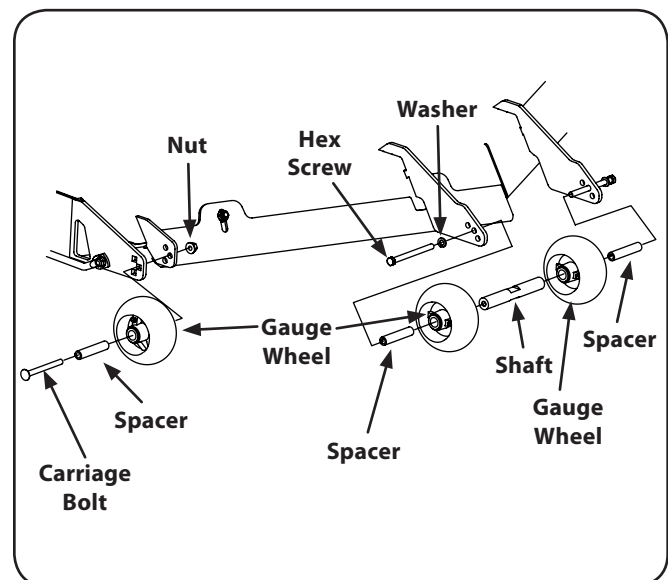

Figure 6-7
2. Remove the lock nut securing one of the front gauge wheel shoulder screws to the deck. Remove the gauge wheel and shoulder screw. Refer to Fig. 6-7.